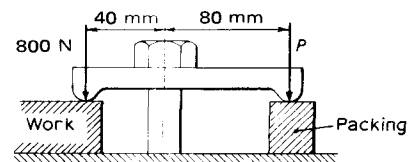

Fig. 2.48
9. Fig. 2.48 shows a plate clamp